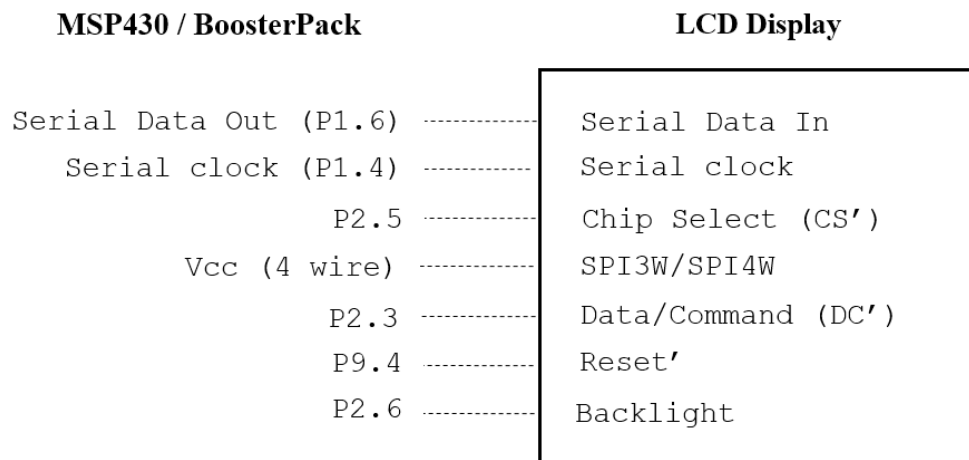

Figure 11.1: Educational BoosterPack Display Interface
The interface between the display, on one side, and the Educational BoosterPack and the microcontroller, on the other side, is shown in Figure 11.1. On the display's side, the first three pins are the SPI pins. The data out of the display is absent since the display doesn't transmit anything. This is a half-duplex implementation of SPI. The pin SPI3W/SPI4W is connected to Vcc on the BoosterPack, which means the SPI interface has four wires (it uses the Chip Select pin). The Data/Command (DC) pin indicates whether a data byte or a command byte is sent via SPI. The Reset pin is used to reset the display and is active low. It's set to high during normal operation. At start up, a pulse of certain duration should be driven on the Reset pin for the display to power on. Finally, the Backlight pin controls the display's brightness. It's possible to drive a PWM signal on this pin to setup multiple brightness levels.